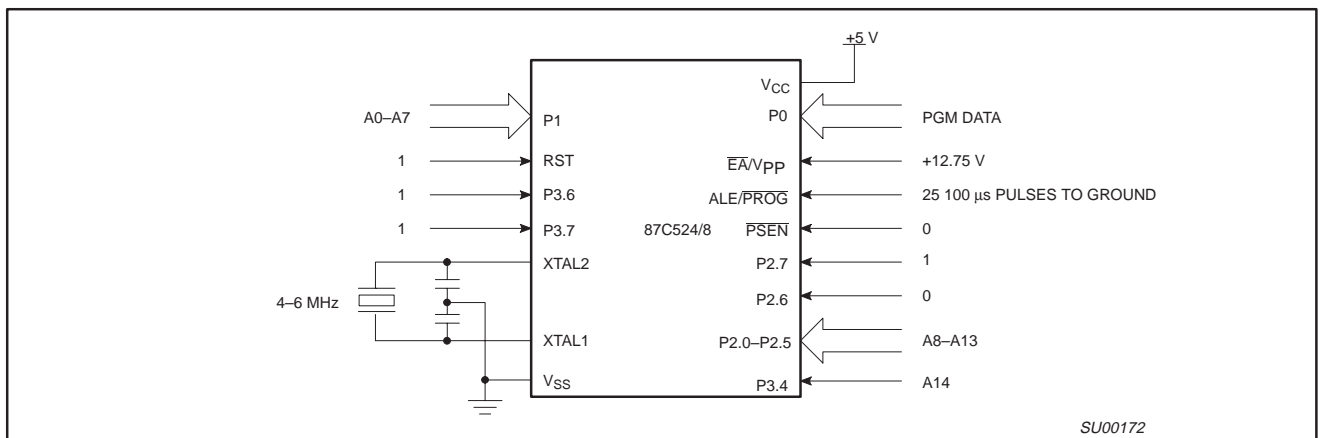
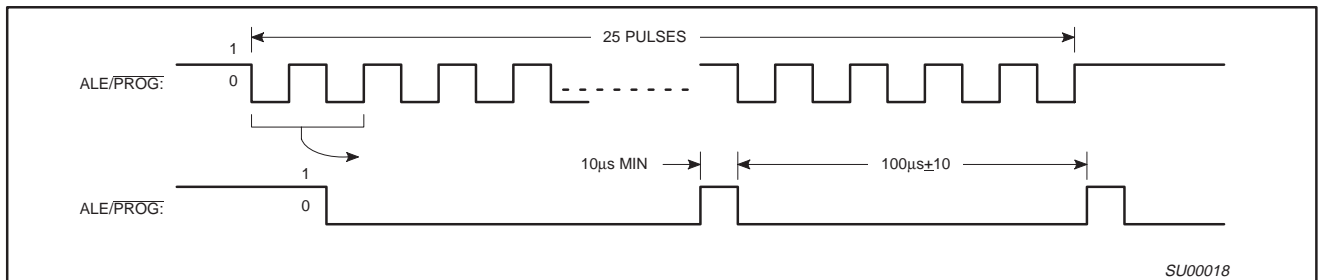
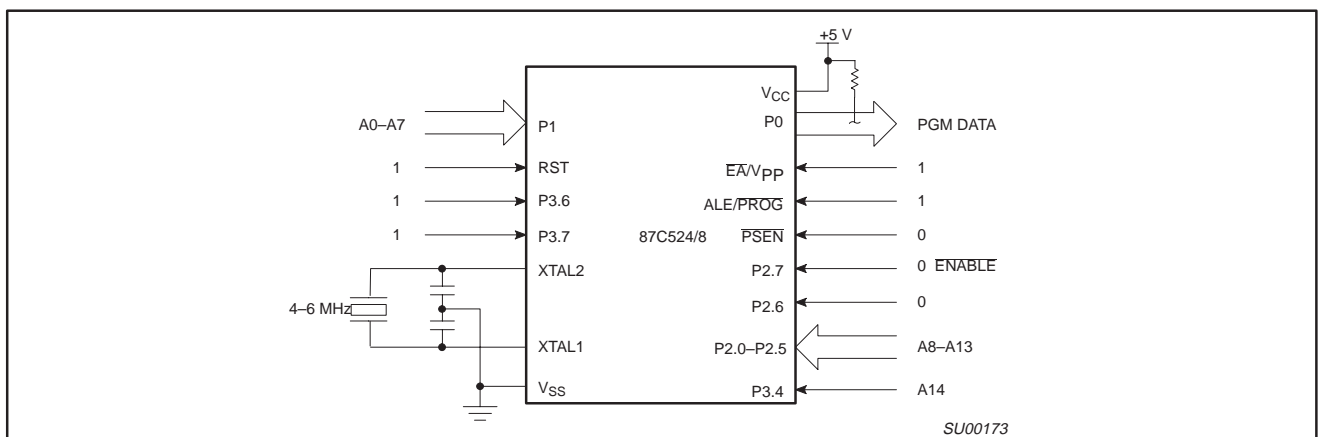

Figure 14. Programming Configuration
Figure 15. PROG Waveform
Figure 16. Program Verification
Table 6 shows the logic levels for reading the signature byte, and for programming the program memory, the encryption table, and the lock bits. The circuit configuration and waveforms for quick-pulse programming are shown in Figures 14 and 15. Figure 16 shows the circuit configuration for normal program memory verification.
The setup for microcontroller quick-pulse programming is shown in Figure 14. Note that the 87C528 is running with a 4 to 6MHz oscillator. The reason the oscillator needs to be running is that the device is executing internal address and program data transfers.
The address of the EPROM location to be programmed is applied to ports 1, 2 and 3, as shown in Figure 14. The code byte to be programmed into that location is applied to port 0. RST, \overline{PSEN} and pins of ports 2 and 3 specified in Table 6 are held at the 'Program Code Data' levels indicated in Table 6. The ALE/PROG is pulsed low 25 times as shown in Figure 15.
If lock bit 2 has not been programmed, the on-chip program memory can be read out for program verification. The address of the program memory locations to be read is applied to ports 1, 2 and 3 as shown in Figure 16. The other pins are held at the 'Verify Code Data' levels indicated in Table 6. The contents of the address location will be emitted on port 0. External pull ups are required on port 0 for this operation.
The setup for microcontroller quick-pulse programming is shown in Figure 14. Note that the 87C524 is running with a 4 to 6 MHz oscillator. The reason the oscillator needs to be running is that the device is executing internal address and program data transfers.
The address of the EPROM location to be programmed is applied to ports 1, 2 and 3, as shown in Figure 14. The code byte to be programmed into that location is applied to port 0. RST, PSEN and pins of ports 2 and 3 specified in Table 6 are held at the 'Program Code Data' levels indicated in Table 6. The ALE/PROG is pulsed low 25 times as shown in Figure 15.
in Figure 16. The other pins are held at the 'Verify Code Data' levels indicated in Table 6. The contents of the address location will be emitted on port 0. External pull-ups are required on port 0 for this operation.
* FOR PROGRAMMING VERIFICATION SEE FIGURE 14.
FOR VERIFICATION CONDITIONS SEE FIGURE 16.